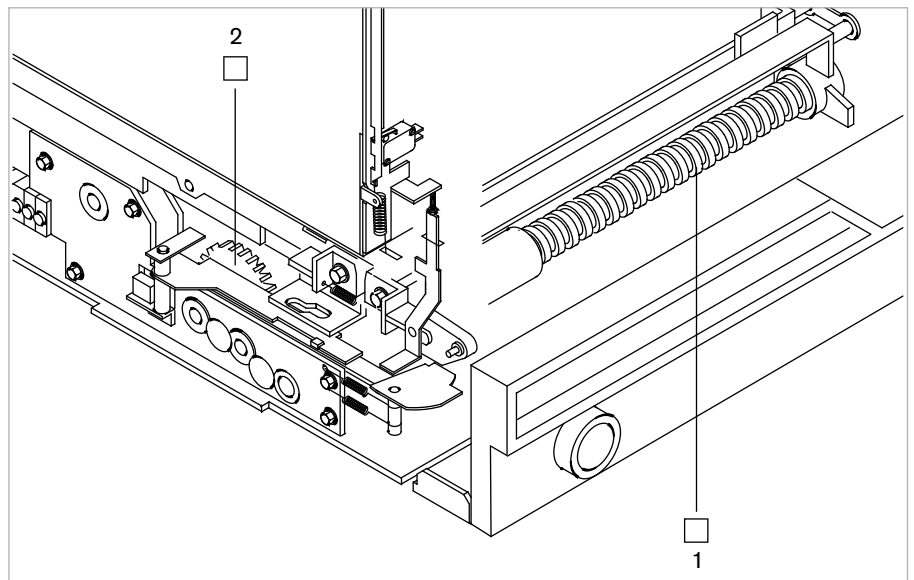

Fig. 54
- Spindle of truck mechanism (Fig. 54, item 1). The spindle is accessible from below
- Geared wheels of truck mechanism (only in case of motor-drive) (Fig. 54, item 2). The geared wheels are accessible once the lower front cover has been removed.